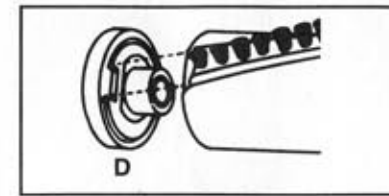

Figure 2
Replace the shaft (E) into the end nearest the shortest brush strip and align the indentation on the bearing retainer (D) with the brush strip on both ends (see Figure 2). Seat firmly. Replace the washer (C). Position the end cap (B) with the flat sides of the center hole over the flat sides of the threaded shaft (E). Tighten locknut (A). When properly assembled, the brush roll should rotate freely.